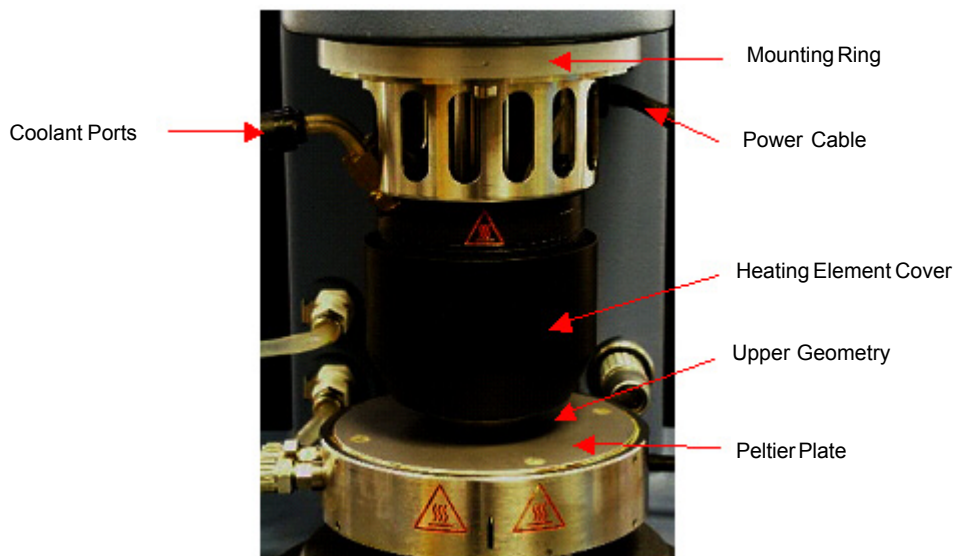

Figure 7.2
2. Attach the Upper Heated Plate fixture to the mounting ring on the underside of the instrument head, using the three captive screws provided. Note that the power cable should project to the right of the instrument when viewed from the front, with the ports for the coolant and inert gas to the left (see Figure 7.2).